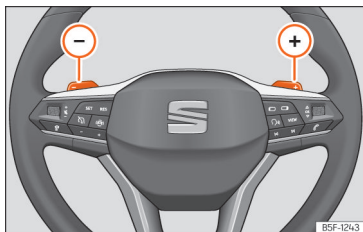

Fig. 136 Steering wheel: automatic transmission levers
- Press the gearshift paddle to select a higher gear **Fig. 136**.